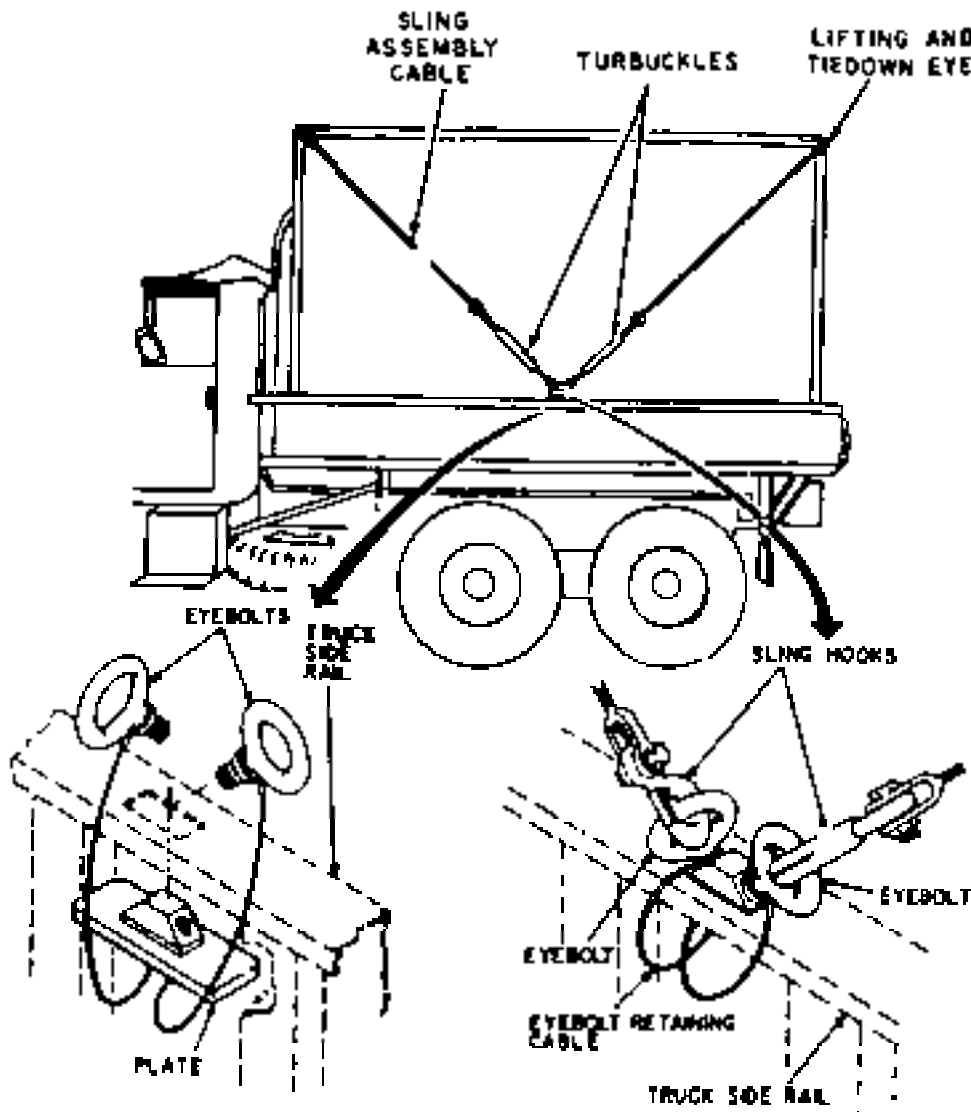

Figure 3-2. Securing Shelter on Truck.
- (5) With one person at each rope, guide shelter into position so it is aligned above truck bed, and maintain that position while lowering shelter into place on truck bed.
- (6) Remove lifting ring from lifting hook and separate lifting ring from sling hooks. Remove sling hooks from lifting eyes and remove ropes from rear towing eyes.
*d. Securing Shelter on 2 1/2-Ton or 5-Ton Truck. (Figure 3-2)*
- (1) Install plate and eye bolt assemblies (part of sling assembly) on cargo bed side-rails of truck as shown in Figure 3-2.
- (2) Hook ends of four sling assemblies to tiedown eyes at each top corner of shelter, using hooks at furthest end of cables from turnbuckles.
- (3) Hook sling hooks at opposite end of cables to appropriate eye bolts on truck. Make sure sling hooks point away from shelter.